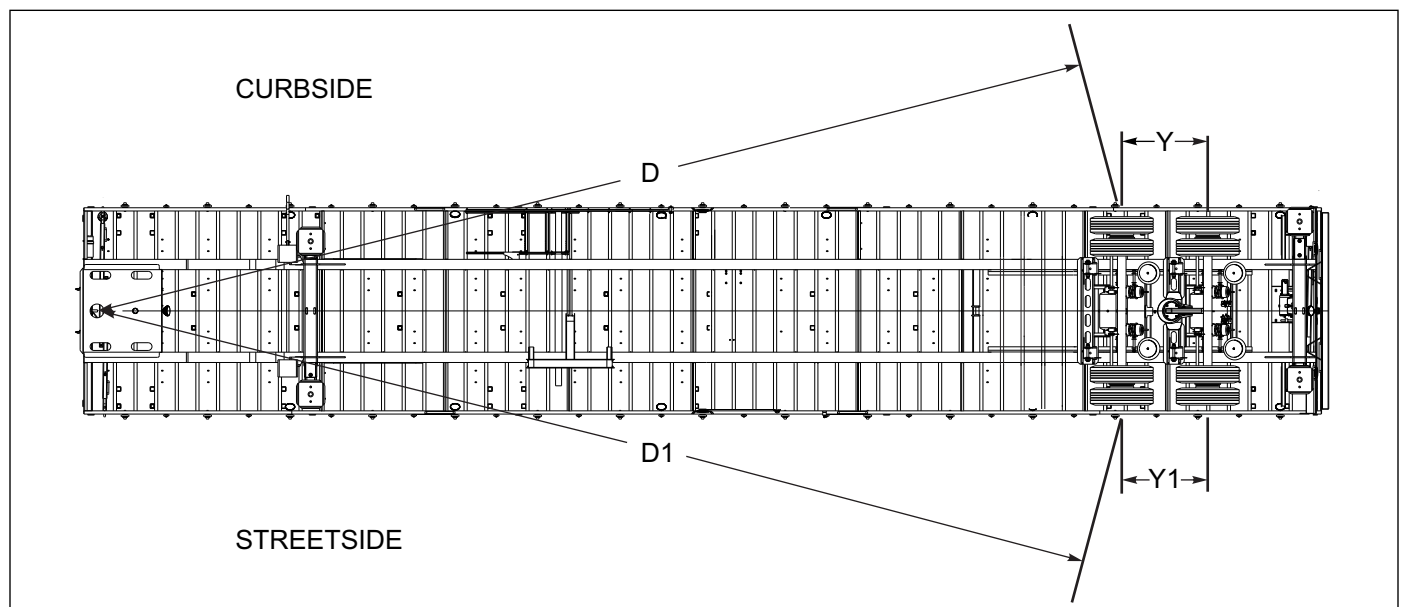

Figure 4-8: Checking Axle Alignment
4. Measure (D) from the plumb bob to the center point on one end of the axle. Record this measurement (**See Figure 4-8.**)